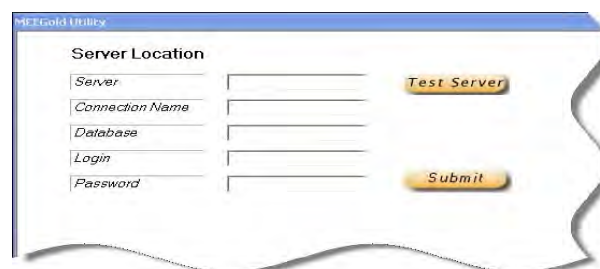

Figure 4-8: Network Desktop Database Window
3. When the server has been verified, the Submit button appears on the MCEGold Utility window (Figure 4-8). Enter the connection name, database, login, and password information. Click **Submit**.